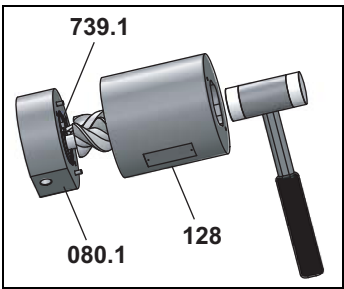

Fig. 14
2. Use light blows of a plastic tip hammer to drive the set of screws together with the bearing cover **080.1** out of the measuring housing **128** and pull out, see Fig. 14, page 33. Remove the o-ring **739.1**.